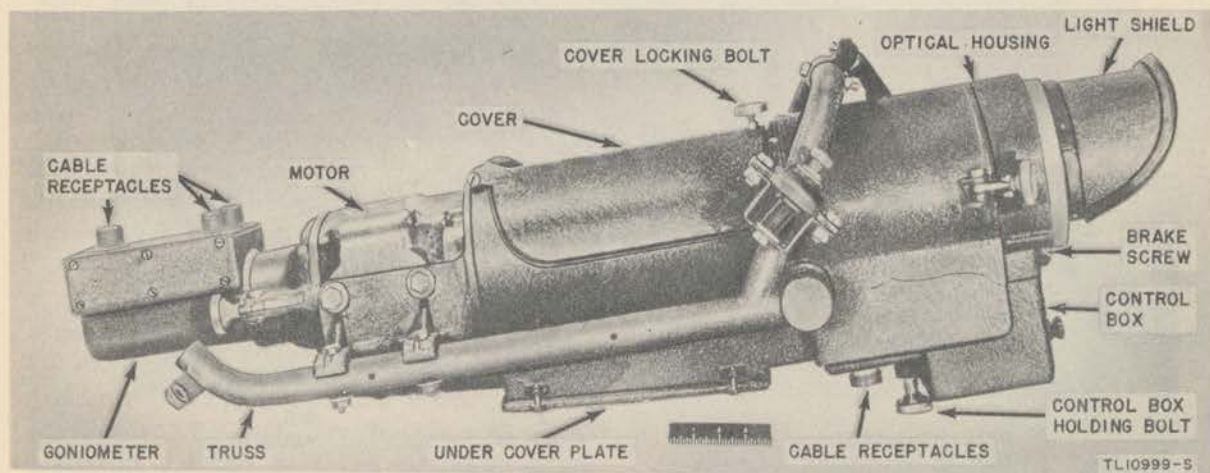

Figure 13. Bearing Indicator ID-121/CRD-3.
f. Bearing Indicator ID-121/CRD-3. The bearing indicator is an electromechanical unit for producing instantaneous visual azimuth and sense patterns characteristic of the antenna and goniometer outputs. Goniometer CPT-47372 is mounted at the rear of the indicator and is driven by the indicator motor. A photograph of the two units is shown in figure 13 and circuit diagrams in figures 81 and 161. The principal housing consists of a tubular type heavy aluminum casting supported on a steel truss assembly attached to the equipment mounting table. Two shock mounts support the indicator in its normal operating position. By removing the shock-mount supporting nuts, the indicator may be lowered on a chain for minor servicing. The indicator motor is mounted at the rear and hinged thumb-screws clamp the goniometer in back of the motor. A hinged cover over the rotating assembly permits access to the brushes and slip rings.
(1) The control box is of the plug-in type and mounts under the front end of the cathode-ray tube. Receptacles J501 and J502, for connection to the rectifier power unit, are at the rear of the control box. The light shield and azimuth scale assembly may be swung aside for removing the cathode-ray tube.
(2) The motor is a 1/8 horsepower, single-phase, capacity start, induction run motor with a normal running speed of 1,140 revolutions per minute (rpm). A switch cuts out the capacity when the motor has reached its operating speed. At 110 volts the motor draws 3.2 amperes. It is designed for operation from a 110- to 120-volt, 55- to 65-cycle, single-phase alternating current.